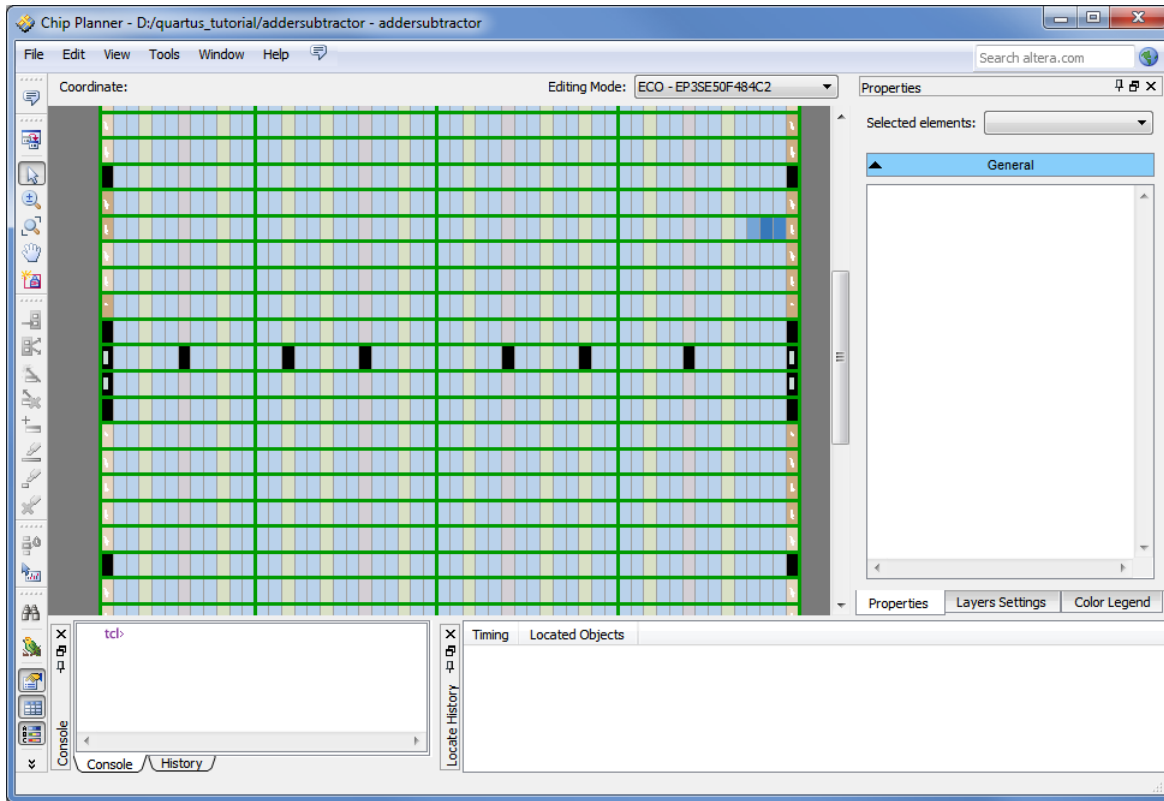

Figure 23: View of the floorplan.
5. An indication of where the circuit is implemented on the chip is available by selecting Tools > Chip Planner(Floorplan and Chip Editor), or by clicking on the icon . This opens the Chip Planner display, as shown in Figure 23. This display highlights the location of the logic elements used to implement the circuit. To make the image appear as shown in Figure 23 you may have to select View > Fit in Window (shortcut Ctrl-Alt-w).
3. Right-click on the same name and choose **Locate > Locate in Chip Planner**(Floorplan & Chip Editor) from the pop-up menu that appears. This causes the Quartus® II software to display the floorplan, as in Figure 23, and highlight the part that implements the adder subcircuit.